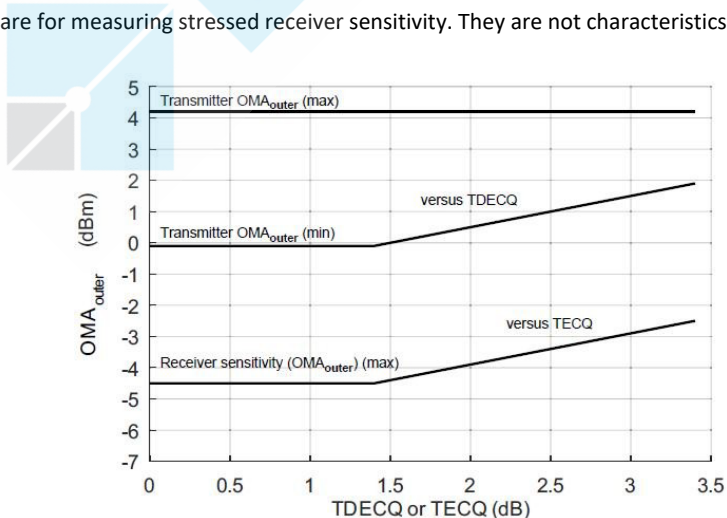

Figure 6. Illustration of Transmitter OMA_{outer} and Receiver Sensitivity Mask for 800G-DR8+
2. The values for $OMA_{outer}(min)$ vary with TDECQ. Figure 6 illustrates this along with the values for $OMA_{outer}(max)$.
5. Receiver sensitivity (OMA_{outer}) is informative and is defined for a transmitter with a value of TECQ up to 3.4 dB. Receiver sensitivity should meet Equation (1), which is illustrated in Figure 6.